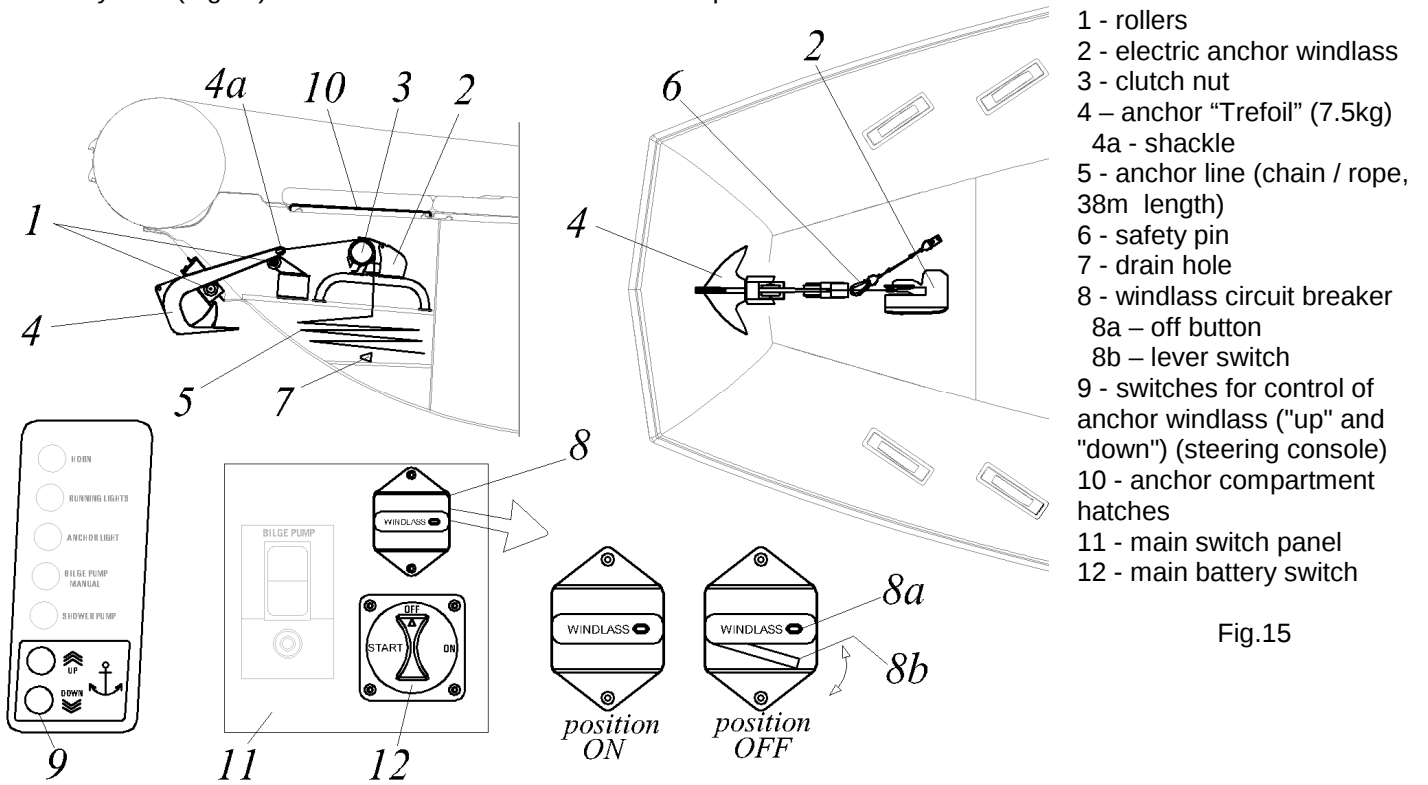

Fig.15
Anchor system (Fig.15) is located inside the bow anchor compartment.
3. ***In order not to lose the anchor, periodically check the correct tightening of the anchor shackle (4a)(Fig. 15).***
5. ***Periodically clean out the drain opening (7) from dirt.***